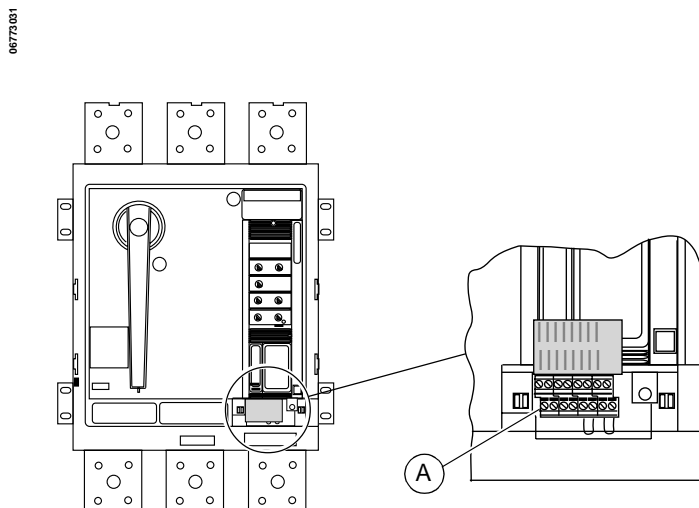

Figure 37: Terminal Block
1. If system design requires circuit breaker to be self-restrained, self-restrain it by leaving factory-installed jumper between terminals 5 and 6. Otherwise, remove factory-installed jumper (A) from short-time terminals 5 and 6 (Figure 37).